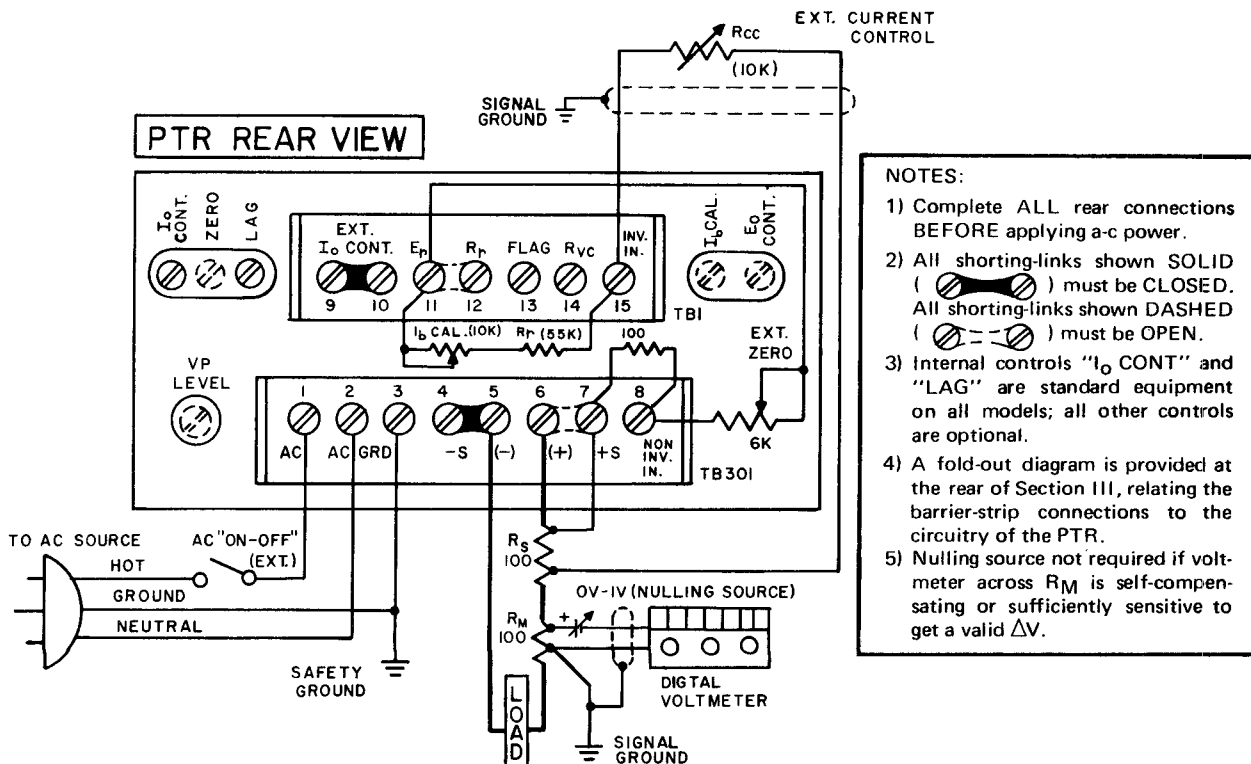

FIG. 3-10 CONNECTIONS FOR EXTERNAL SENSING AND RESISTANCE CONTROL ( $I_O$  max. = 10 mA).
- a) A "zero" control can be added externally by connecting an adjustable voltage divider network between the built-in reference source ( $E_r$ ) and the noninverting amplifier input as shown in FIG. 3-10.
- b) An external trim rheostat for calibrating the control current (and thereby the maximum output current) may be added by inserting a rheostat between terminals (11)–(12) on TB1. The value of the trim-rheostat or resistor depends on the value of  $R_r$  (see Table 3-1). It should be approximately 10% of the  $R_r$  value.
3-46 OUTPUT MEASUREMENTS. Output current measurements may be performed either with an ammeter in series with the load, or for better accuracy, across a measuring resistor ( $R_M$ ) in series with the load, paralleled by a digital voltmeter. The series "Measuring Resistor" ( $R_M$ ) should be of a similar value as the sensing resistor. Voltage measurements across  $R_M$  must be divided by the resistance value of  $R_M$  to convert the results into ampere units. Stabilization measurements may be performed with a sensitive "Null" type millivolt meter in series with a stable, adjustable voltage source (see FIG. 3-10). After the output current ( $I_O$ ) is adjusted, the voltage drop across the measuring resistor ( $R_M$ ) is "nulled" by means of the adjustable voltage source. If the load resistance is now shorted, the deviation of the "Null" meter ( $\Delta V$ ), divided by the value of the sensing resistor, is an indication of the d-c stability of the output current. In percent:
3-48 EXAMPLE 1. To summarize the material presented in the previous paragraphs (3-42 to 3-47), a circuit for external sensing and resistance control is shown in FIG. 3-10 below. A PTR model is used to deliver stabilized output current from 0–10 mA into a fixed load. From the table of values (Table 3-1) we have:
3-49 Connect all components as shown in FIG. 3-10. The sensing resistor ( $R_S$ ) should be located as close to the power supply as possible. The leads connecting the control resistance ( $R_{CC}$ ) must be shielded, with the shield (single-ended) connected to the signal ground. The signal ground point must be selected carefully to avoid ground-loops. Note: PTR supplies have an internal "signal ground," consisting of a resistor/capacitor series connection from the negative output to chassis. This ground connection must be removed if the signal ground is established externally as shown. Refer to Section II (par. 2-8) of this manual for the location of the internal ground connection.